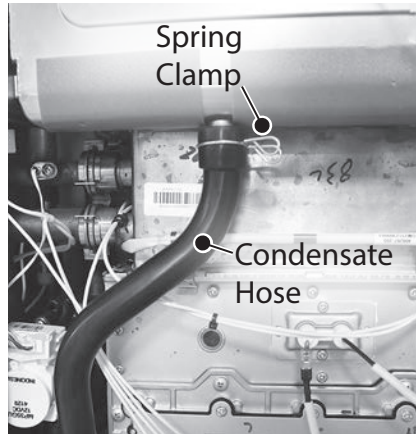

Figure 149 - Removing black condensate hose
- 41** Disconnect the black condensate hose from the top of the condensate trap and the secondary HEX. Compress the spring clamp and pull it down along with the black hose. Place it aside in a safe place for reinstallation. See Figure 149.